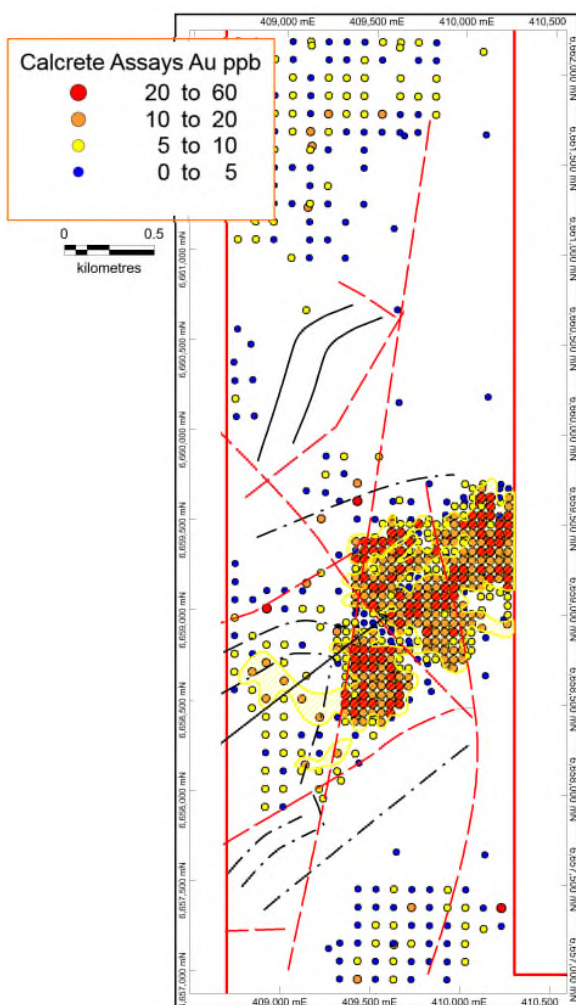

Figure 1: Marmota gold-in-calcrete sampling
- In December, Marmota completed a RC drilling program with 1,652 metres drilled, testing 3 areas of interest identified in the geophysicist review. see [Figures 1 and 2]